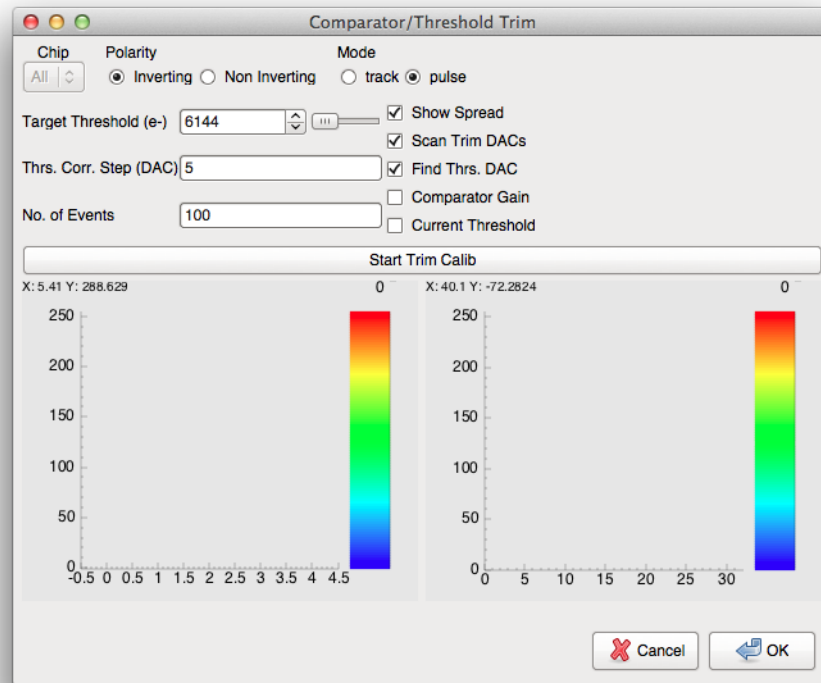

Figure 13. Calibration of the Threshold corrections for the channels
3. Click on the Calibration settings button or item in the menu and there click on the button with label **Calib. Beetle Comparator** (see the Section called *Calibration run*). A dialog window like the one shown in Figure 13 will pop up.